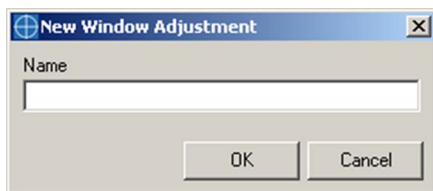

Figure 5-5. Window Creation Window
- Create a predefined window. Click the **Create** button to open the backup window as shown in Figure 5-5. Then fill in the field and click **OK** to validate the creation of the new window.